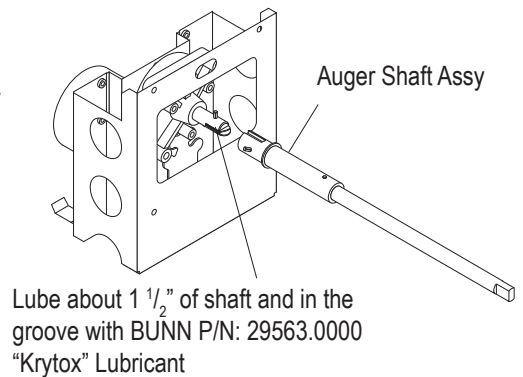

Figure 3
- Place a small amount of “Krytox” lubricant (provided in kit in a plastic cap) on the end of the motor shaft (about 1 1/2”) and a thin film in the groove. Install auger shaft assembly onto the motor shaft. See Figure 3. Do not use too much “Krytox” lubricant. This is the only place “Krytox” lubricant is used.
- Assemble motor/shaft assembly as shown in Figure 3, then install assembly into cooling drum. Make sure the pins do not hit the sensor board and cooling drum seal is not dislodged as the shaft passes through.